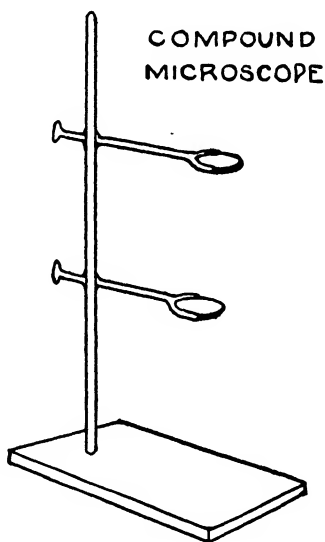

FIG. 103.
5. *A Compound Microscope.*—Clamp two lenses of about 2 or 3 inches focal length to an upright support, as shown in Fig. 103. Place a piece of white paper with a short arrow marked on it for object below the objective. Mount the